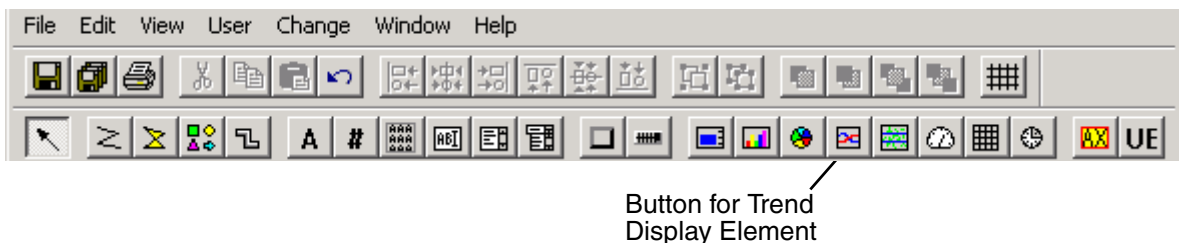

Figure 27. Trend Button
- a. Click on the Trend button, Figure 27.